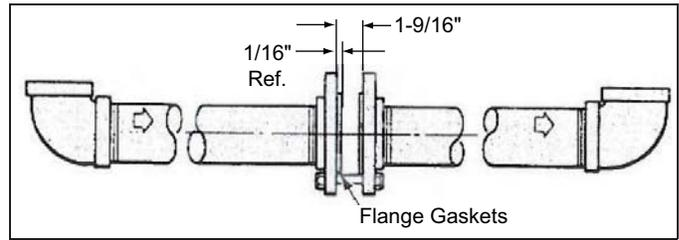

Figure 2.
3. Install standard 125# flanges on the pipe, leaving 1-9/16" between flange faces. See Figure 2.